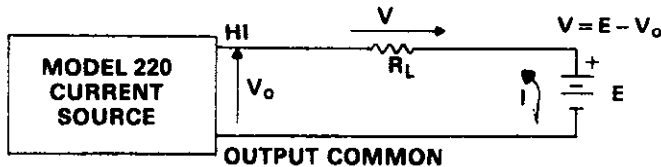

Figure 2-7. Connections as a Current Sink with Resistive Load
**Example 10 Operation as an Active Load (Current Sink)**—The Model 220 can be used as an active current sink as shown in Figure 2-7. The output voltage  $V_o$  is a function of  $E$ ,  $I$  and  $R_L$  where: